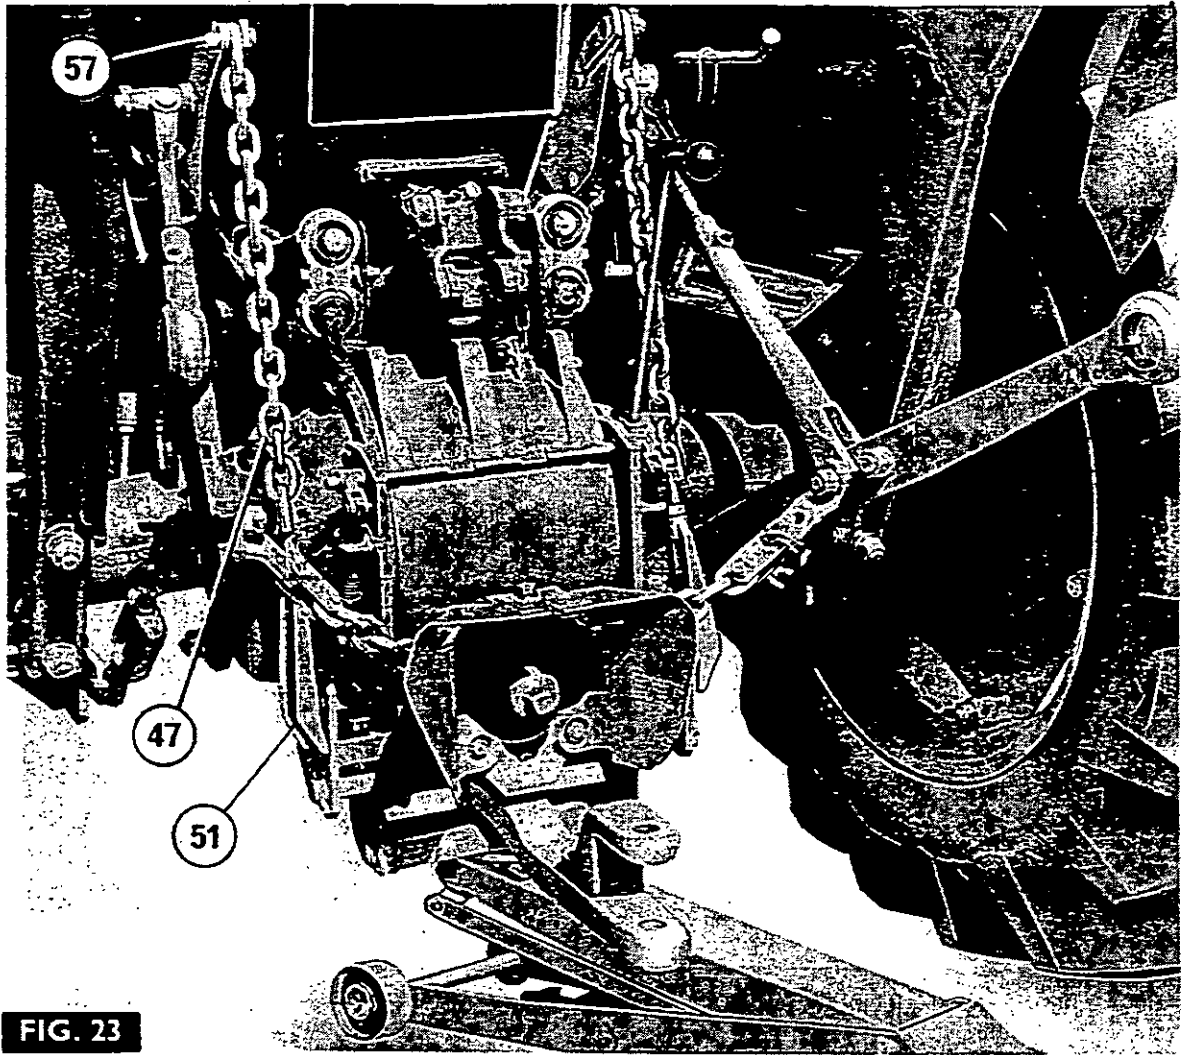
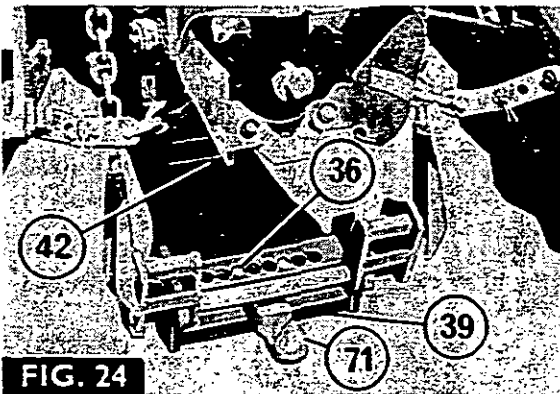

FIG. 23
FIG. 24
17. Raise the lower links and lift rods and fit the new, longer clevis pins (63), securing them with split pins.
18. Fully tighten the lift arm extension bolts (64).
19. Fig. 23. Screw a nut on to the threaded portion of each lift chain (47) then screw an eye (51) on to each chain.
20. Attach the chains to the lift arm extensions using the pins (57) and split pins.
21. Place a strip of metal 1 mm x 25 mm x 150 mm (1/16 in x 1 in x 6 in) on top of the drawbar frame, above the locating pins (36), then jack up the frame, as shown until the strip of metal is trapped between the frame and the drawbar mounting bracket.
23. Adjust the length of the lift chains (47) by screwing the eyes up, or down, until the eyes will just slide on to the spigots on the latches (72).
26. Remove the jack, then lower the hitch by moving the lever (61) forwards, then moving the 'Position Control' lever to the 'Down' position.
27. Remove the metal strip, then push out the drawbar pin (42) and withdraw the draw bar (40).
28. Fig. 24. Fit the hitch hook (71), refitting the drawbar pin (42), then remove the hairpins (39) and locating pins (36) and refit them to centralise the hook.